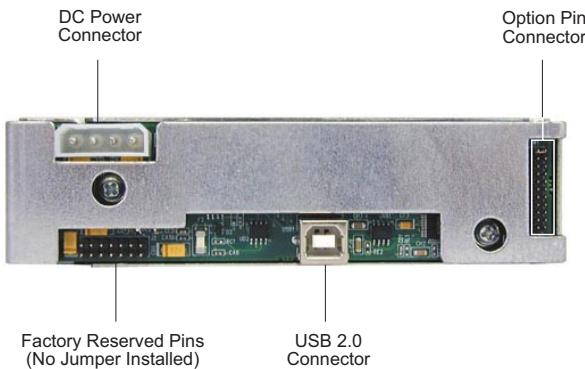

Figure 5A: Receiving Frame Motherboard
(Figures 5A & 5B)
10. Connect the power cable from the DC power supply in the computer or expansion chassis to the power connector on the DE110 receiving frame. Refer to Figure 5A for the DE110 receiving frame power connector location.